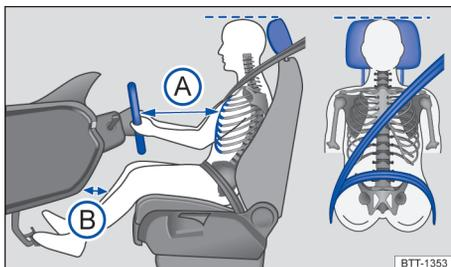

Fig. 19 Correct distance between the driver and the steering wheel, correct seatbelt position and correct headrest adjustment.
- Adjust the seat so that the distance between the steering wheel and the driver's chest is of at least 25 cm → Fig. 19 **(A)** and so the driver can firmly hold the steering wheel by its outer rim with both hands and with slightly flexed arms.
- Adjust the driver's seat lengthwise so that the pedals may be reached with slightly flexed legs and so that the distance between the knees and the dashboard is at least 10 cm → Fig. 19 **(B)**.
- Adjust the head rest so its top edge is at the same height as the top of the head → Fig. 19 – but not below eye level. Position the back of your head as close to the head restraint as possible.